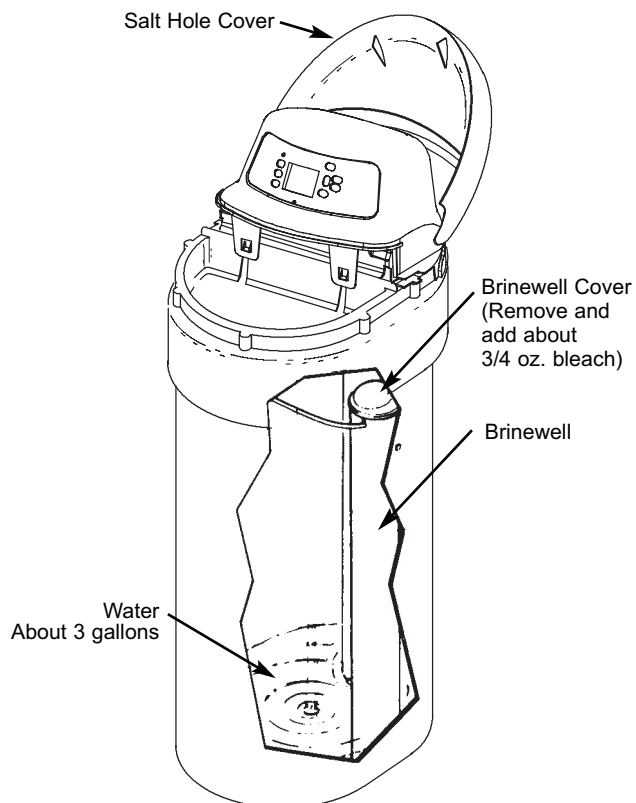

FIG. 30
3. Remove the brine well cover (Fig. 30) and pour about 3/4 ounce, or 1 to 2 tablespoons, of common 5.25%, *unscented*, household bleach (Clorox, Linco, BoPeep, White Sail, Eagle, etc.) in the softener brine well. Replace the brine well cover.